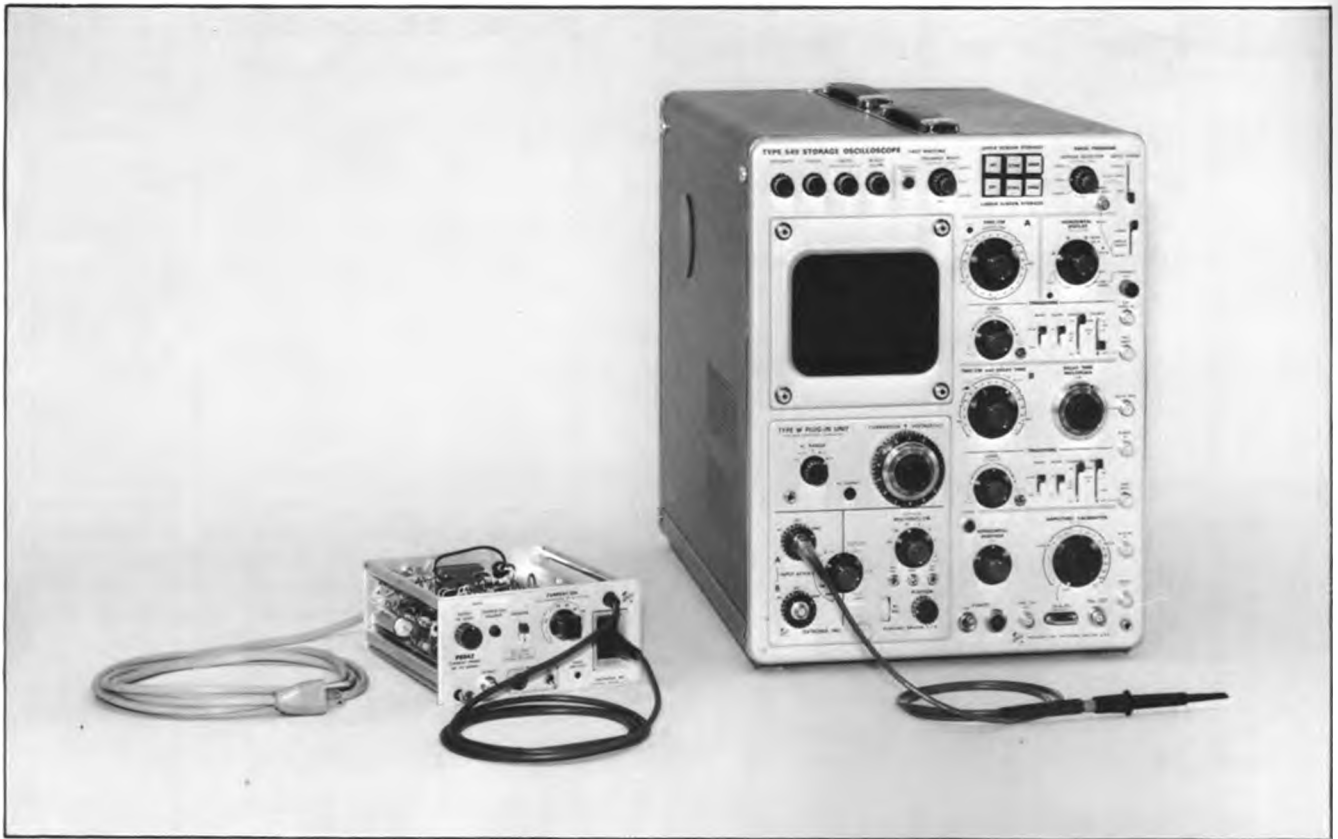

Fig. 6-2. Preliminary test setup.
4. Place the differential comparator plug-in unit in the storage oscilloscope. Connect the 1 \times probe to the Channel A input. See Fig. 6-2 for preliminary test setup.